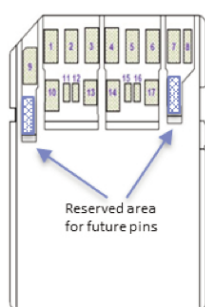

Figure 2 –SD Express full sized card pin layout
- The full size SD Express card uses the same pins and connectors as defined for existing SD UHS-II. See Figure 2.